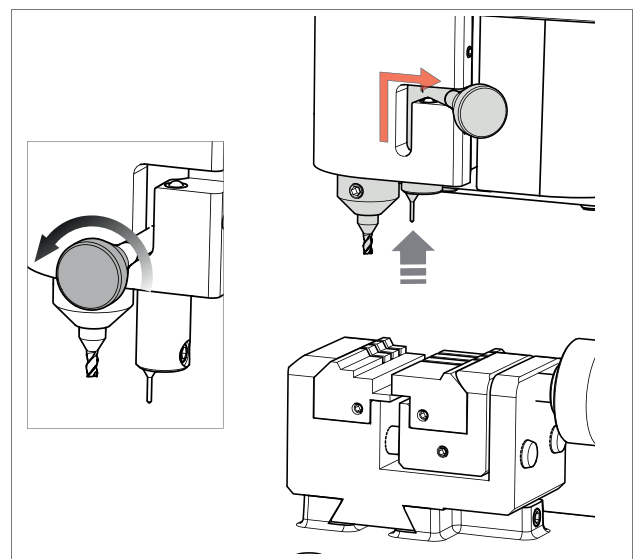

Fig. 57
- **EXCLUDING THE TRACER 01T (Fig. 57)**
NOTE: for cutting and/or decoding operations with the tracer point 02T, the tracer 01T must be in the idle position (Fig. 57). REPLACE THE 02T TRACER WITH THE REQUIRED CUTTER PRIOR TO ATTEMPTING TO CUT A KEY.